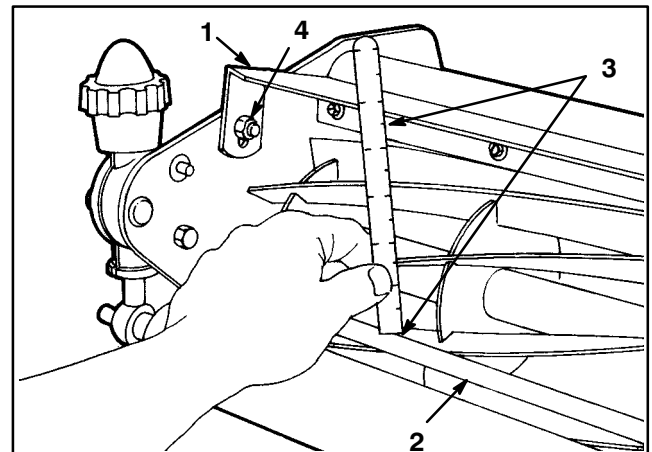

Figure 8
1. Set cutting unit in normal cutting position and measure distance from top of front crossbar to shield at each end of cutting unit (Fig. 8).
2. Height of shield from crossbar for normal cutting conditions should be 4-3/4 inches. Loosen capscrews and nuts securing shield to each side-plate, adjust shield to correct height and tighten fasteners (Fig. 8).